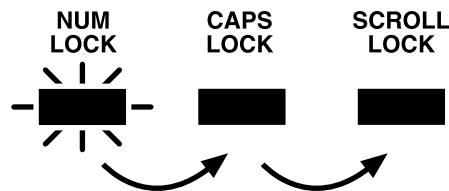

Figure 5-1. The configuration-mode LED pattern.
- **Configuration-mode indication—rolling sequence.** As shown in Figure 5-1, the receiver flashes the Num Lock, Caps Lock, and Scroll Lock LEDs on the attached keyboard in sequence to show that it's in configuration mode (see **Section 4.2.2**). Num Lock will light first while Caps Lock and Scroll Lock are dark. Then Caps Lock only will be lit, then Scroll Lock only, and then Num Lock again. The cycle repeats itself continuously until you exit configuration mode, after which the LEDs will be placed back in the states they were in before you went into configuration mode.